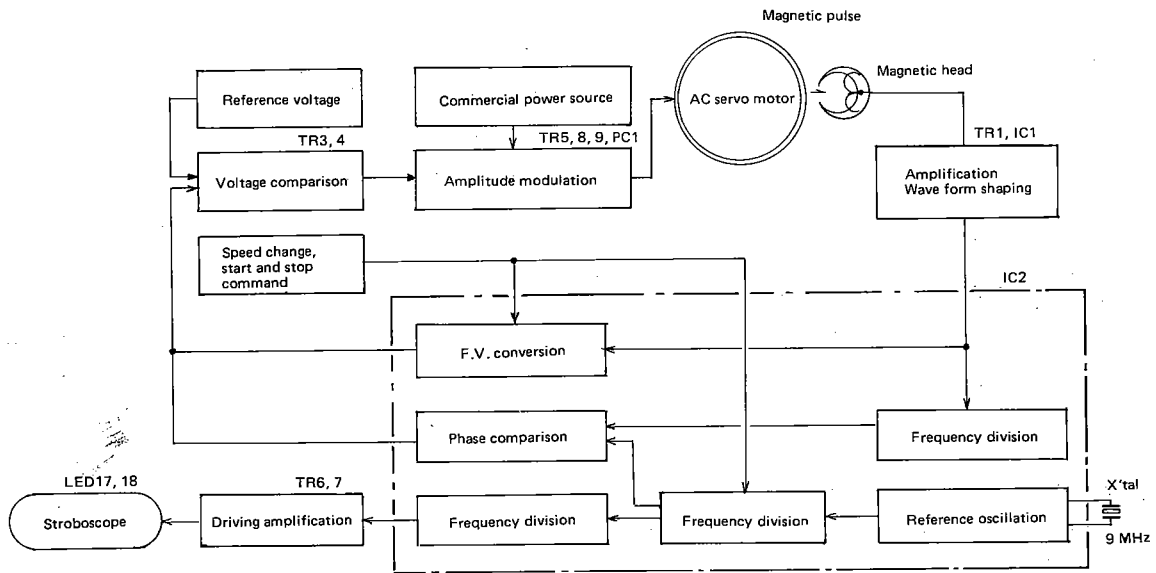

Fig. 3 Phono Motor Servo Block Diagram
- (1) Connect the respective probes of the dual trace oscilloscope to the test terminals for rotation adjustment, TP1 and TP3 to observe the wave form (earth grounding terminal TP2) on motor drive P.W.B.
- (2) Turn 33/45 selector switch of front panel ($\text{---} 33 \text{---}$ $\text{---} 45 \text{---}$) to $\text{---} 45 \text{---}$.
- (3) Adjust the wave form as shown in Fig. 3 by means of "VR1" 45 rotation VR.
- (4) Turn the 33/45 selector switch on the front panel to $\text{---} 33 \text{---}$.
- (5) Adjust the wave form as shown in Fig. 3 by means of "VR2" 33 rotation VR.